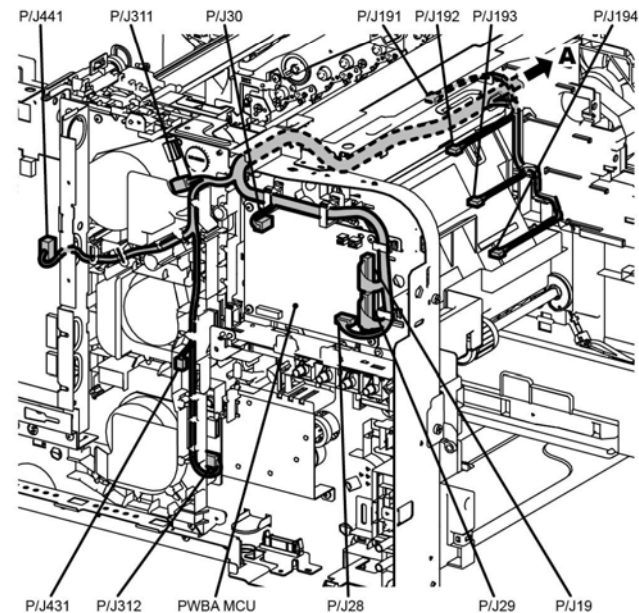

Figure 1 Top harness left
1. Refer to Figure 1 to locate the left side of the top harness assembly.